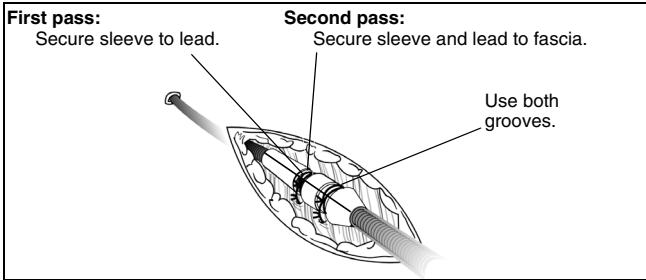

Figure 10. Using the sleeve with the percutaneous implant technique.
1. Place the suture sleeve over the lead body. Slide the suture sleeve deep into the tissue (Figure 10).